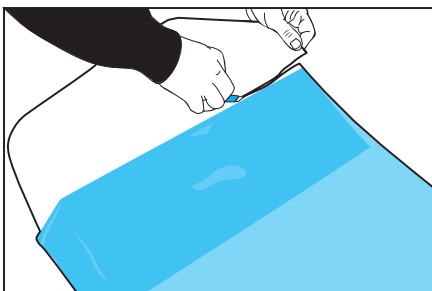

Figure 01
- › Remove approximately 10 cm (4 in.) of the liner. (FIG. 01).